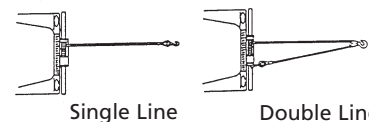

Figure 1
1. Do not maintain power to the winch if the motor stalls. Overloads can damage the winch and/or the wire rope and create unsafe operating conditions. FOR LOADS OVER 2/3 RATED CAPACITY, WE RECOMMEND THE USE OF A PULLEY BLOCK TO DOUBLE LINE THE WIRE ROPE (Figure 1). This reduces the load on the winch and the strain on the wire rope by approximately 50%. If attaching back to vehicle, attach to the frame or other load bearing part. **The vehicle engine should be running during winch operation to minimize battery drain and maximize winch power and speed.** If considerable winching is performed with the engine off, the battery may be too weak to restart the engine.
3. To maximize winch and wire rope life, use a pulley block to double line heavier loads (See Figure 1).